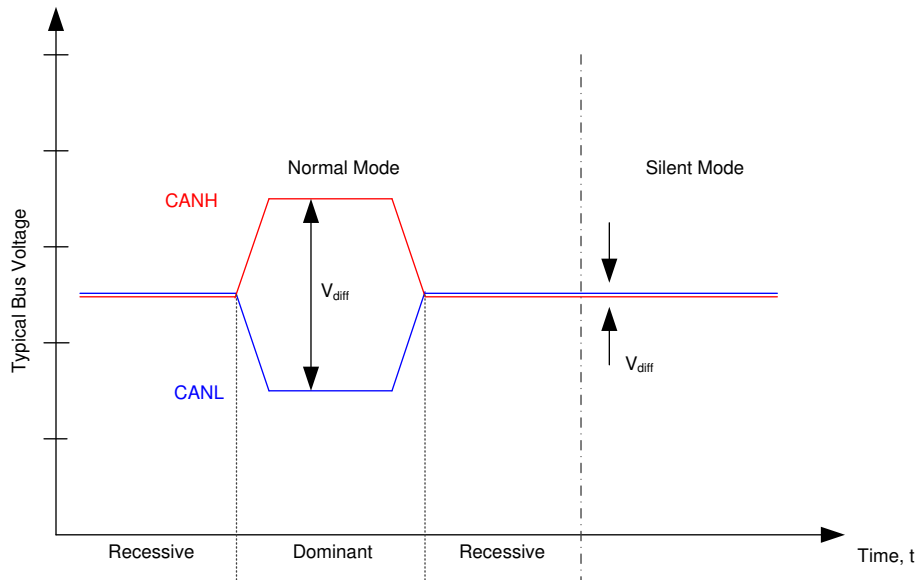

图 8-1. Bus States
The CAN bus has two logical states during operation: recessive and dominant. See 图 8-1.
(1) X = irrelevant
(2) For bus state see 图 8-1